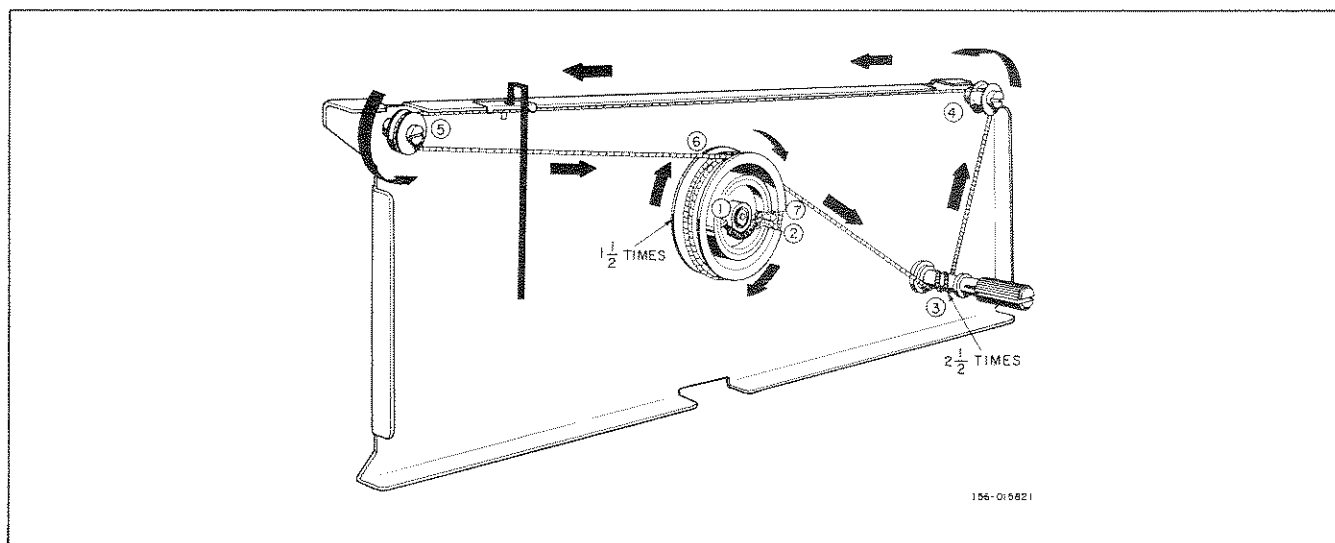

Figure 2. Dial Cord Restringing Detail.
5. Place tuning capacitor drum in position shown in figure 2. Start with dial cord tied to spring and attached as shown by guide number 1. Proceed to string along direction of ascending numerical order. Finish by tying cord to spring at guide numbered step 7.